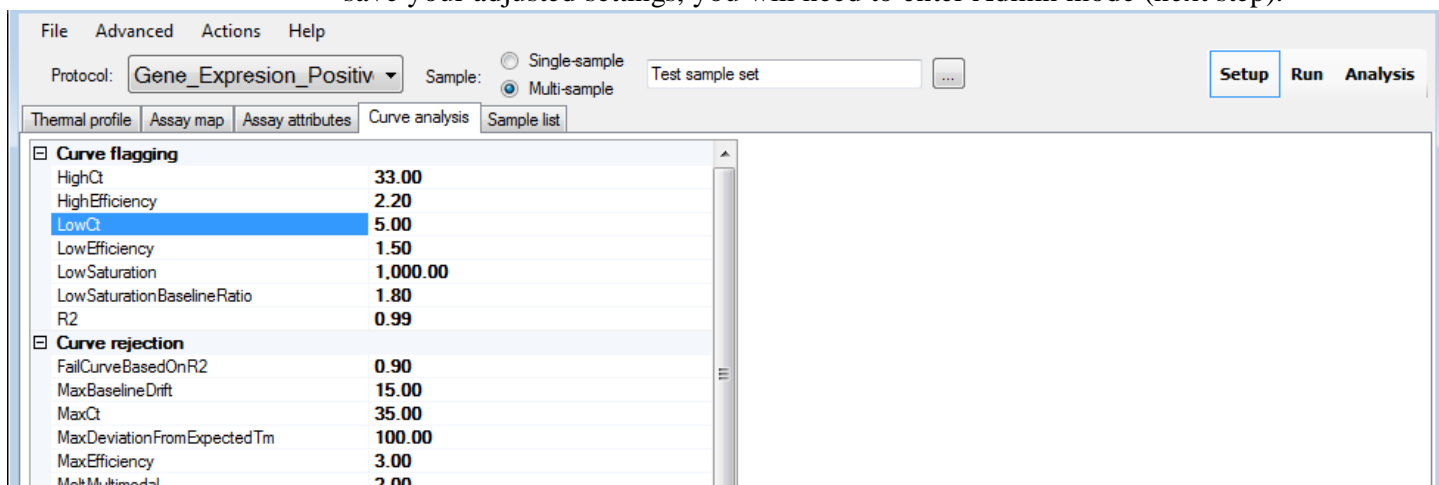

Figure 15. Curve Analysis tab.
- From the *Curve Analysis* tab (Figure 15), adjust your analysis settings as needed. In order to save your adjusted settings, you will need to enter Admin mode (next step).